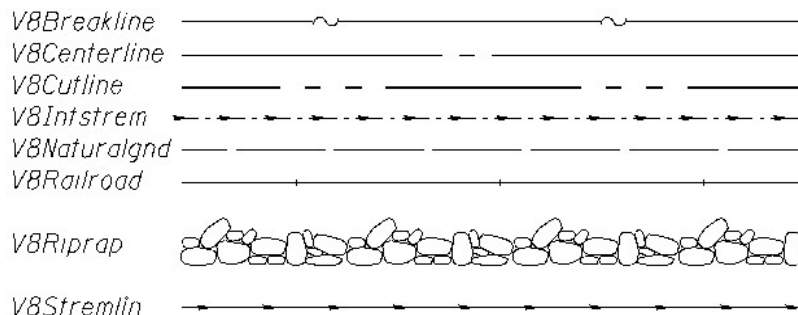

Figure 2.2-1. MicroStation v8 Line Style Names and Appearances
- V8BridgeLineStyle.rsc: A revised resource file specifically for MicroStation v8. Figure 2.2-1 contains a listing of line style names as well as how they appear in MicroStation v8.